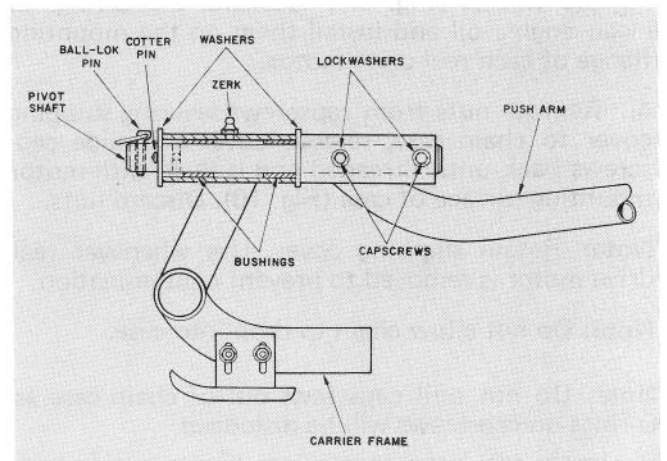

Figure 9
1. Apply "NEVER SEEZE" to pivot shafts. Insert Front Pivot Shafts into number 2 and 3 push arms, align holes in Pivot Shafts and secure each assembly together with two (2) capscrews and lockwashers (Fig. 9).
2. Install the Carrier Frame and Cutting Unit Assembly to each Pivot Shaft with a Thrust Washer on each side of the carrier frame and install a Cotter Pin to secure the assembly to the shaft (Fig. 9).
3. Insert a Ball-lok Pin into the forward hole of each Pivot Shaft (Fig. 9).